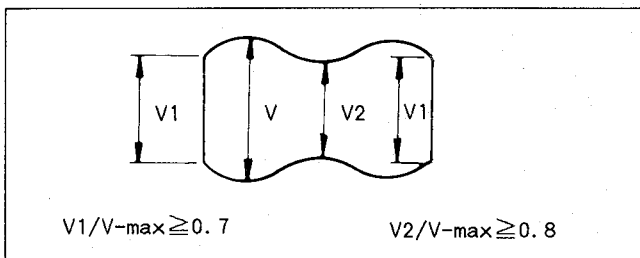

Fig. M13-1
2. Play back the monoscope portion of the alignment tape (VFMS0001H6) and confirm that the RF envelope appears, as in Fig. M13-1.